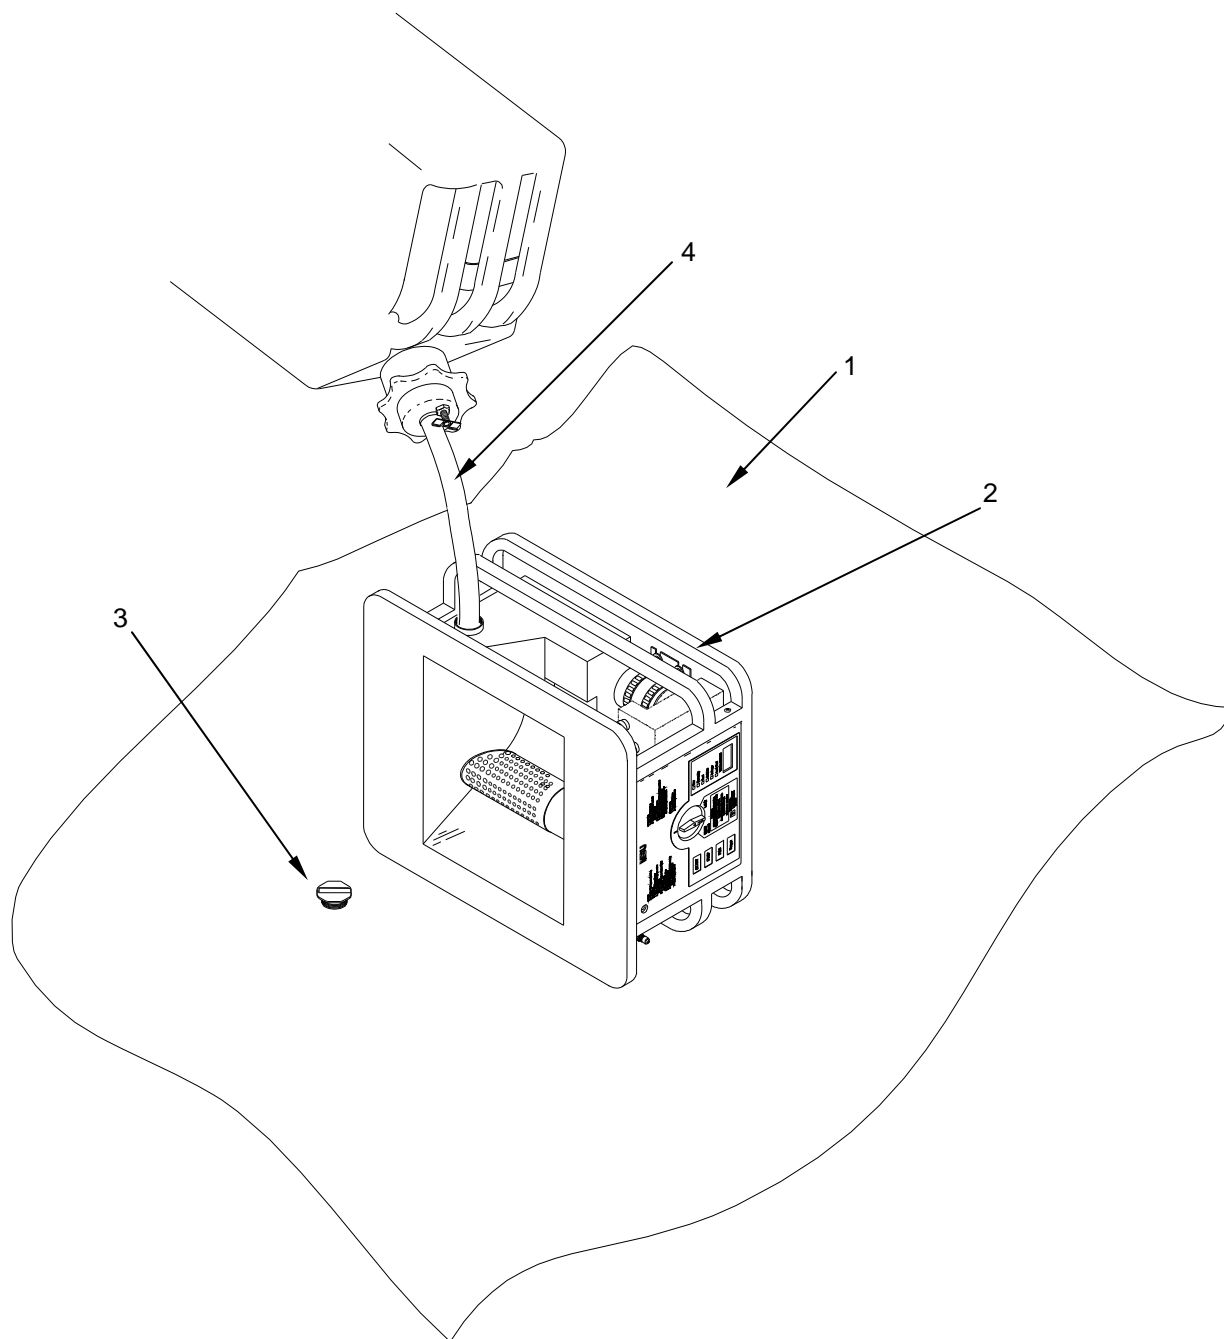

Figure 11. Manual Fueling Procedure.
1. In cases where the MBU is required to be fueled manually, petroleum absorbent material (Figure 11, Item 1) will be placed under the burner to catch any fuel that may be spilled.
3. To fuel manually, place the MBU (Figure 11, Item 2) on the absorbent material on its side so that the fill plug (Figure 11, Item 3) is on top as shown. Remove the fill plug.
4. Fill fuel tank, using a fuel can equipped with spout (Figure 11, Item 4), to the bottom of filler neck opening with JP-8 or approved alternate diesel fuel, and re-install fill plug (Figure 11, Item 3).